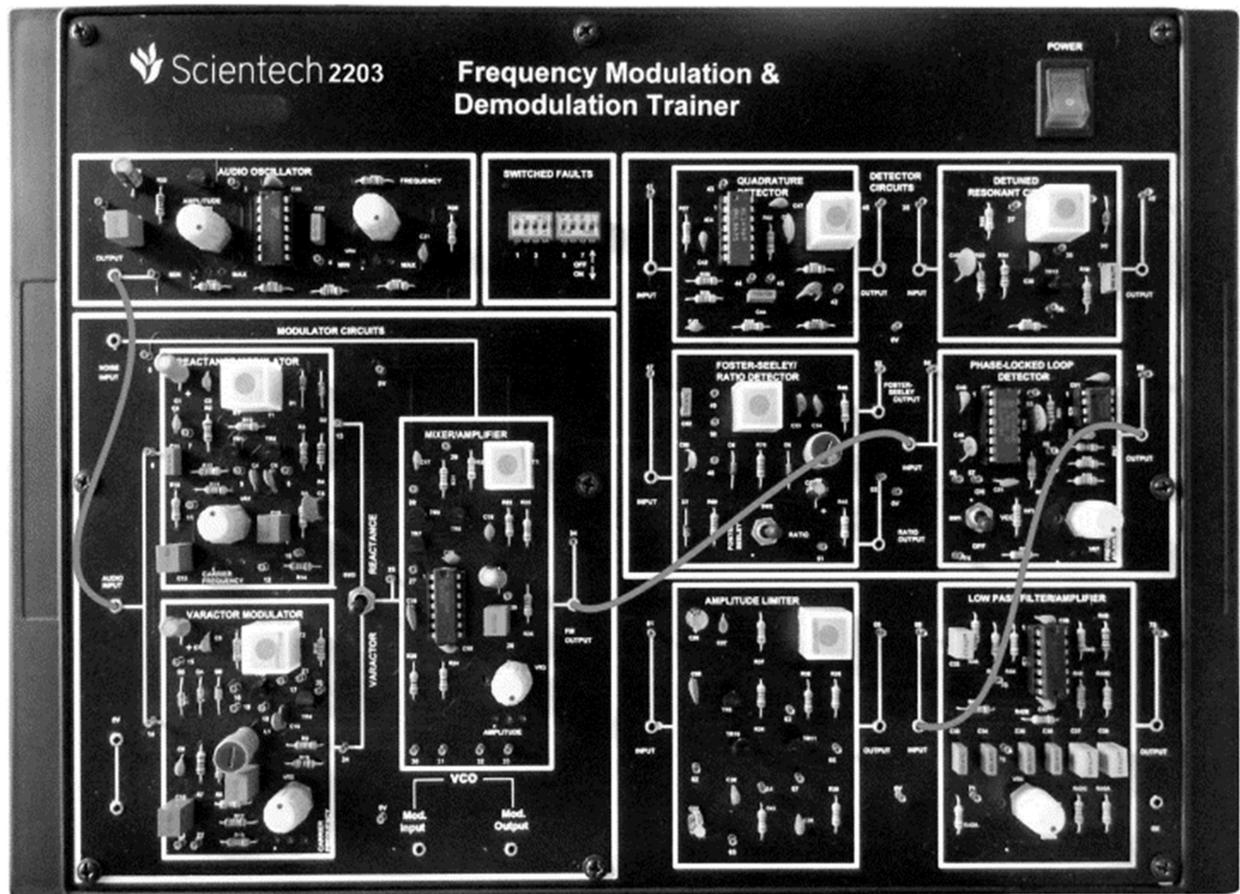

Figure 4 Connections for FM Demodulation using PLL
**Step 2** Make the connections shown in figure 4.